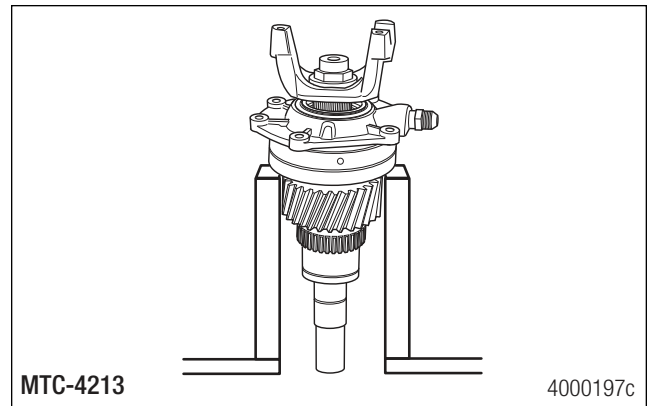

Figure 5.27
1. Support the front input shaft and bearing cage assembly at the workbench. Figure 5.27.